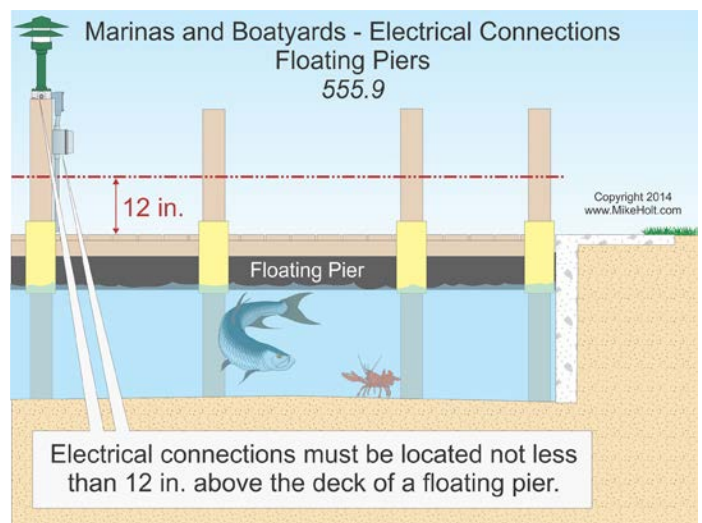
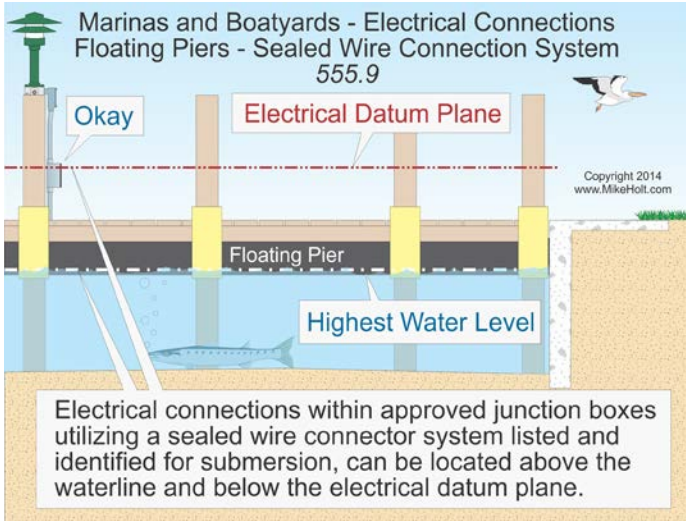

Figure 555-8
Figure 555-9
**Floating Piers.** Electrical connections must be located not less than 12 in. above the deck of a floating pier, unless the conductor splices are contained within approved junction boxes utilizing sealed wire connector systems listed and identified for submersion located above the waterline but below the electrical datum plane for floating piers. Figure 555-8 and Figure 555-9